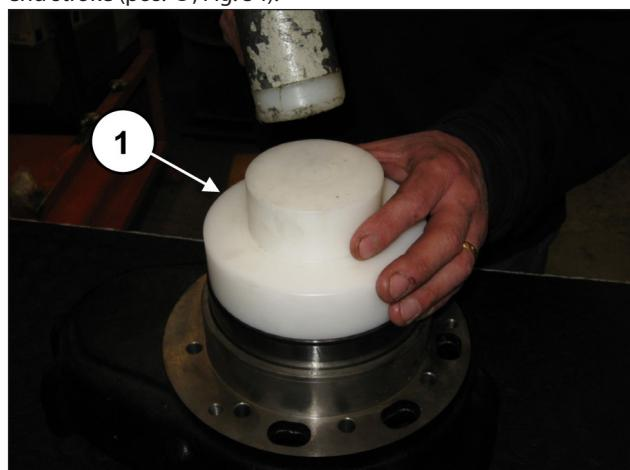
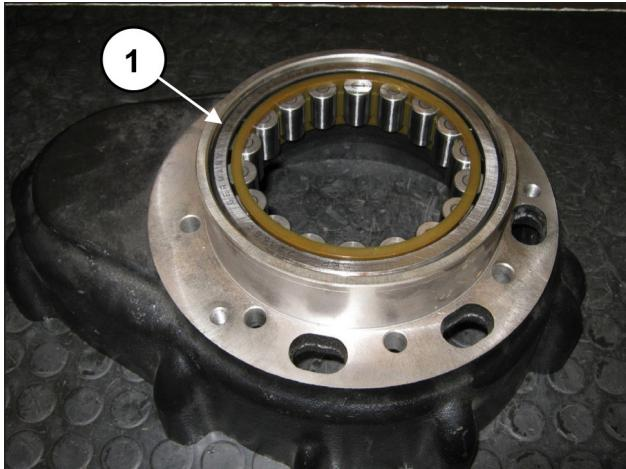

Fig. 53
Fig. 54
From the opposite side of the reduction gear box, pre-assemble the external ring of the crankshaft bearing using the tool code 27605000 (pos. ①, Fig. 53) inserting fully down to end stroke (pos. ①, Fig. 54).